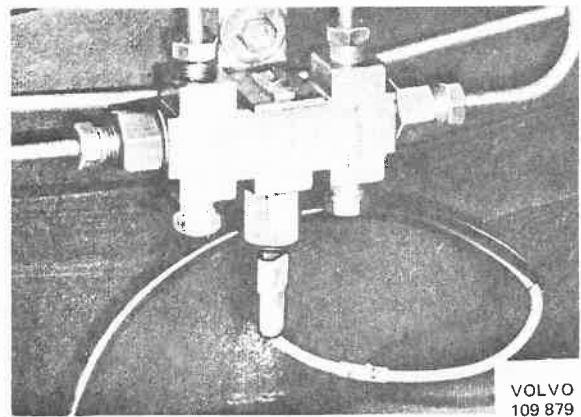

Fig. 38-21. Contact for pressure difference in brake circuits
2. Screw on a new contact carefully in the warning valve. The tightening torque is approx. 15 Nm (1.5 kpm = 11 lbf·ft). Connect up the cable, see Fig. 38-21.